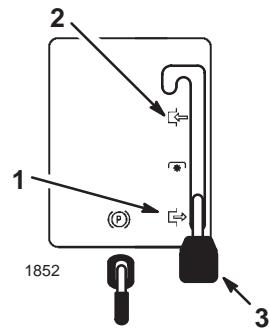

Figure 8
3. Move the PTO to Disengaged (Fig. 8).